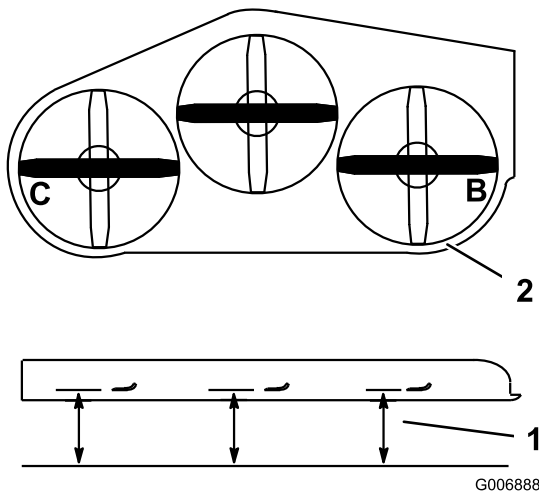

Figure 68
1. Position the **right** blade side-to-side (Figure 68).
2. Measure the right blade at the **B** location, from a level surface to the cutting edge of the blade tip (Figure 68).
4. Position the left blade side-to-side (Figure 68).
5. Measure the left blade at the **C** location (Figure 68), from a level surface to the cutting edge of the blade tip.